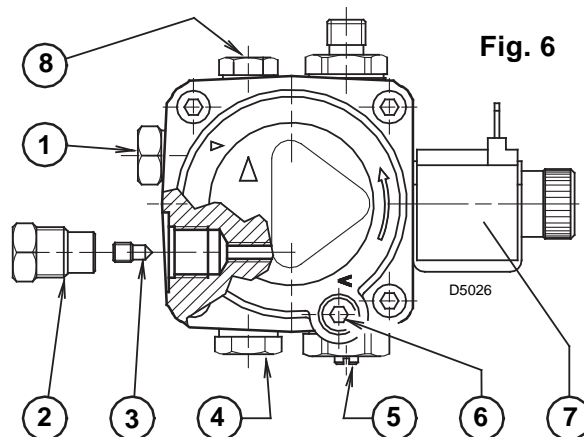
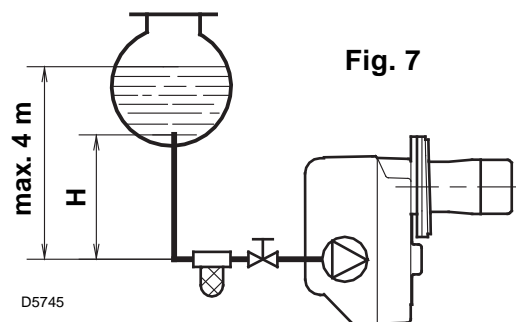

Fig. 6
Fig. 7
- The pump is designed to allow working with two pipes. In order to obtain one pipe working it is necessary to unscrew the return plug (2), remove the by-pass screw (3) and then screw again the plug (2). (See fig. 6).
On the system in fig. 7 it is sufficient to loosen the suction gauge connection (5, fig. 6) and wait until oil flows out.